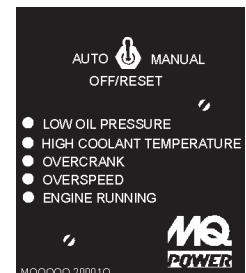

Figure 44. Engine Running LED (ON)
9. Verify that the **Engine Running** status LED on the MPEC unit (Figure 44) is **ON** (lit) after the engine has been started